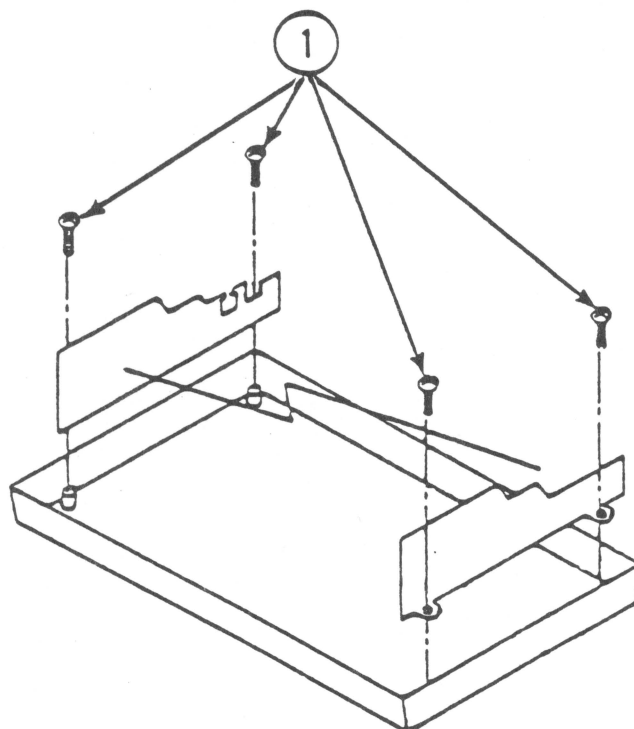

FIGURE 2
9. To free the mechanical assembly, remove the four screws holding it to the printer. (See Figure 2, #1.)